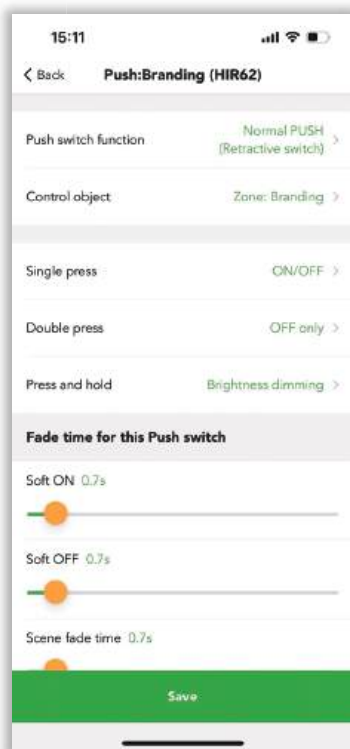

Figure R1.11 Push fade time
- **Fade time for the push switch also can be configured according to the real application. (see figure R1.11)**